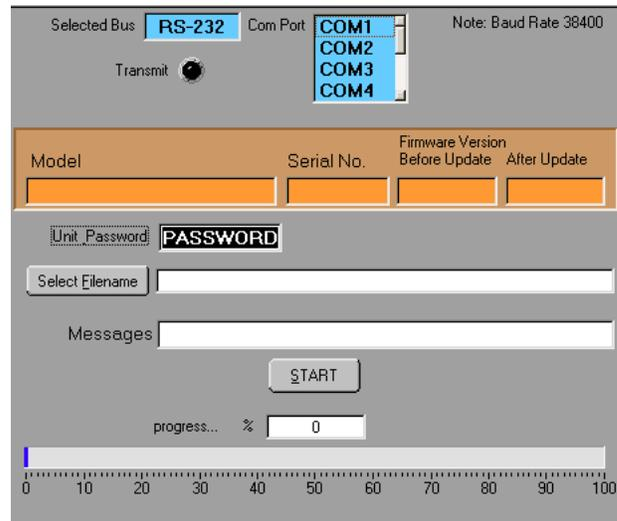

FIGURE 1. OPENING SCREEN, RS 232 SELECTED
2. At the top menu bar, click **Bus Selection** (see Figure 1) and choose RS 232, IEEE 488 (GPIB) or LAN as the interface bus to use during the upgrade process.
- a. RS 232: Select applicable **COM Port**. NOTE: Only 38400 baud is supported. (see Figure 1).